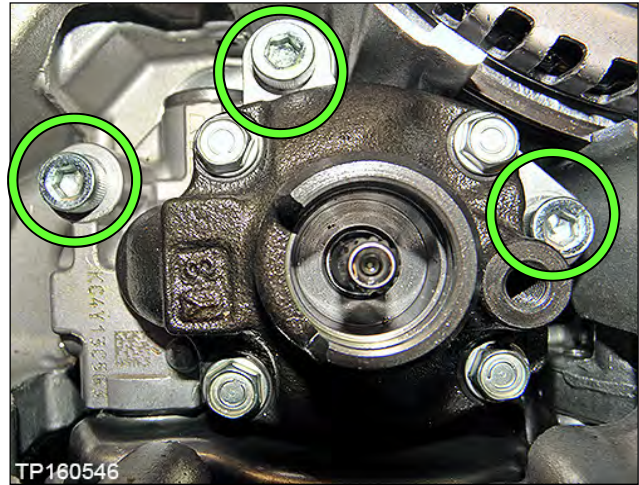

Figure 60
41. Install the new oil pump using the three (3) original Allen®-head bolts (Figure 60).